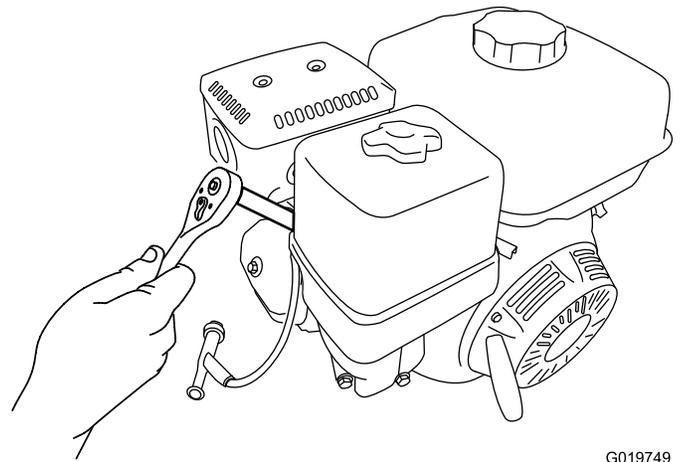

Figure 55
5. Rotate the spark plug counterclockwise using a 21 mm (13/16 inch) spark-plug wrench to remove the plug and the sealing washer (Figure 55).
2. Rotate the spark plug clockwise using a 21 mm (13/16 inch) spark-plug wrench until the plug and sealing washer are seated (Figure 55).